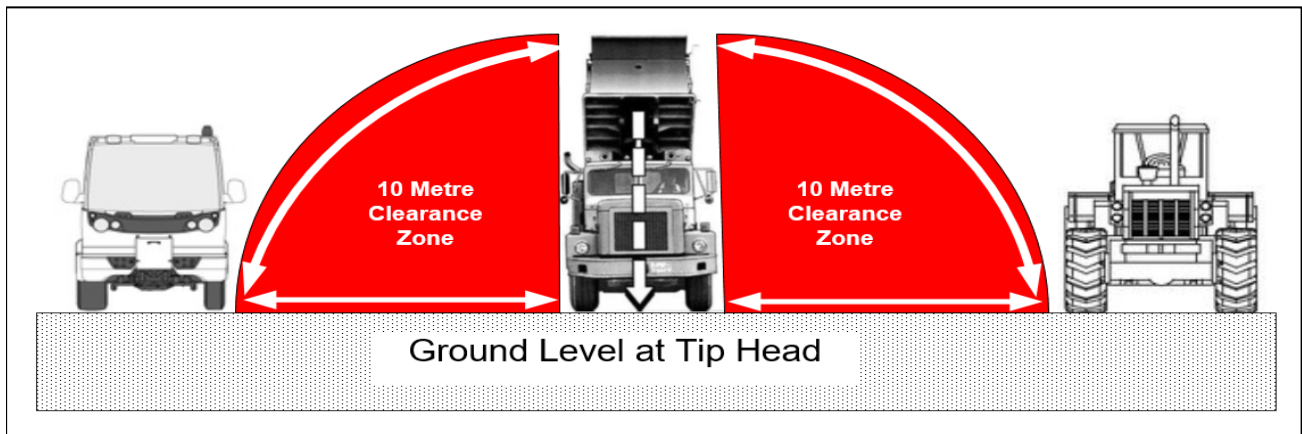

Figure 11– Maintain a 10 Metre Clearance between Trucks and Mobile Equipment
- Maintain the 10-metre safe clearance distance (Figure 11),